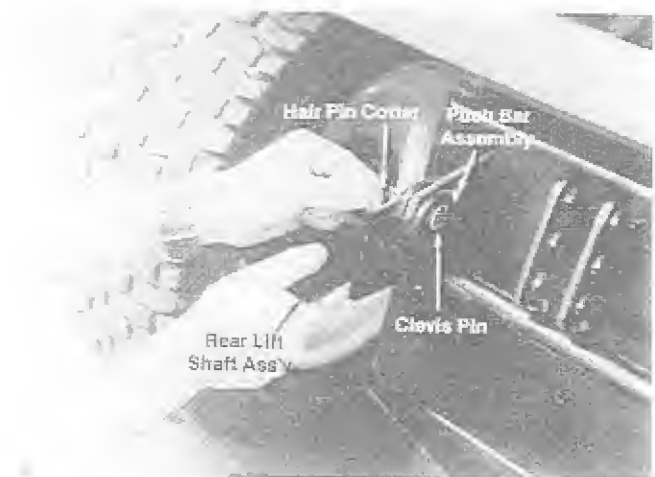

FIGURE 3.
1. Raise the lift shaft assembly until the hole in it lines up with the slot in the push bar assembly. See figure 3.